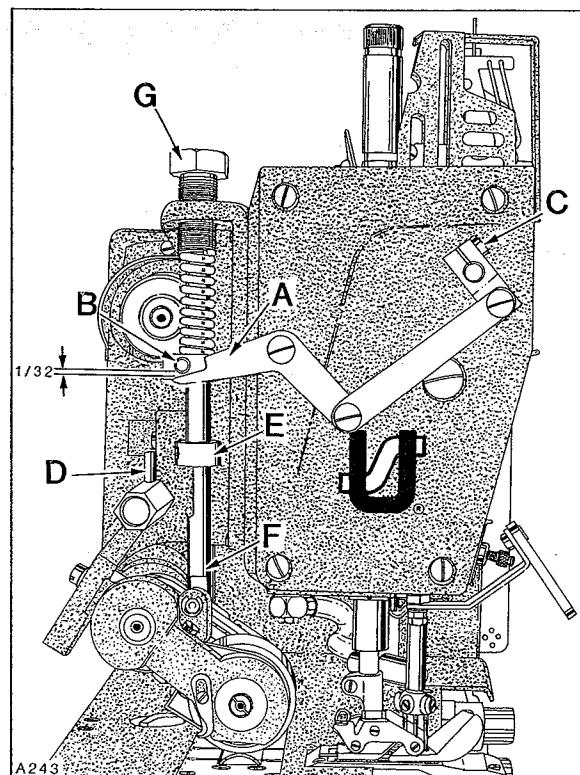

Fig. 40
With puller in operating position and presser foot resting on throat plate there should be $1/32$ inch (.8mm) between puller lifter link (A, Fig. 40) and puller lifting pin (B). If adjustment is required loosen screw (C) in upper presser foot lifting shaft connection and raise or lower link (A) as required. Tighten connection screw (C) securely.